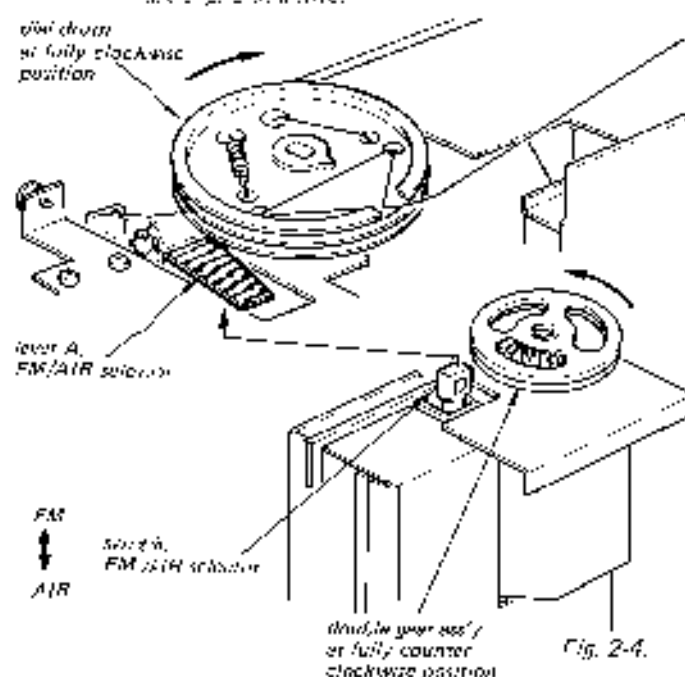

Fig. 2-4.
(2). IFT 1-2 is unable to adjust from rear part of the set. Remove the front panel and adjust IFT 1-2 from front part. (See Fig. 2-4).